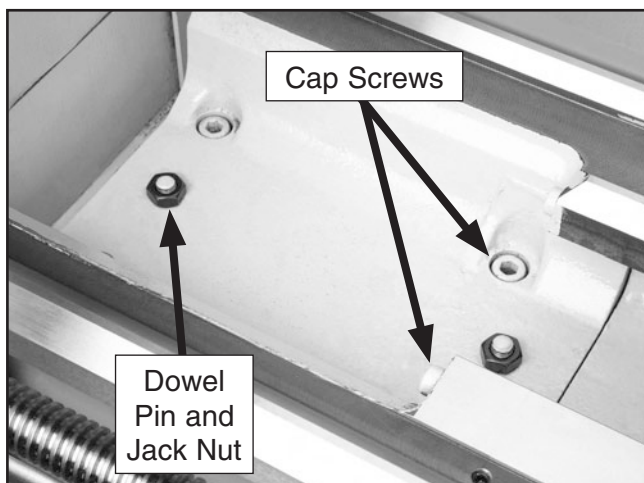

Figure 133. Lathe gap.
1. Using an 8mm hex wrench, remove the four cap screws (**Figure 133**) from the bottom of the gap.
2. Using a 6mm hex wrench, remove the two capscrews from the ends of the ways, and then with the 4mm hex wrench, remove the two bed set screws (**Figure 133**).
3. Using a 17mm wrench, tighten the two dowel pin jack nuts (**Figure 133**) until the pins are pulled free from the gap.